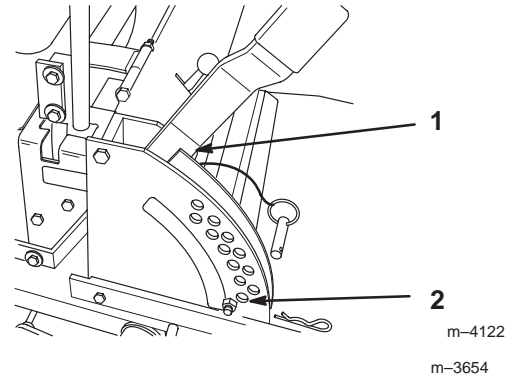
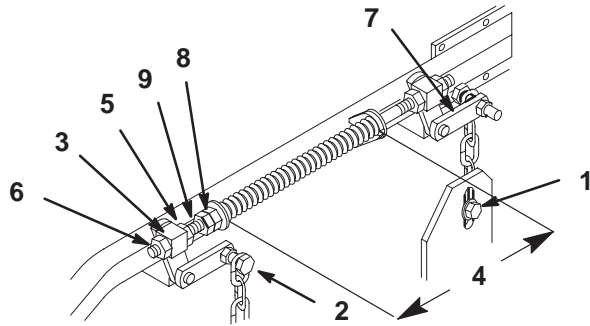

Figure 53
Figure 54
4. Raise the deck to the transport position (Fig. 53). Take force off of the two large deck lift springs by loosening the jam nut and front spring nut, in front of each spring, as far as possible (Fig. 54).
5. Place 2 thick blocks (1-3/8 in. [35 mm]) under the rear left and right lower edge of the mower. Place 1 block (1-3/4 in. [44 mm]) under the front center lower edge of the mower, not under the anti-scalp roller brackets. Lower the mower to the 1-1/2 in. (38 mm) height-of-cut position (Fig. 53).
6. Loosen the bottom chain bolt in the slot at the rear of the deck. Repeat for the opposite side (Fig. 54).
7. Loosen the front and rear locking nut on either side of the front swivel. Loosen until the front chains are loose and the deck is supported by blocks. Repeat for the opposite side (Fig. 54).
8. When the hardware is loosened, the remaining tension in the large support springs will tend to rotate the deck lift handle up, out of the 1-1/2 in. (38 mm) position. Press down on the rear deck support arm to firmly return the deck lift handle to the 1-1/2 in. (38 mm) position (Fig. 54).
9. While continuing to press down on the rear deck support arm, take the slack out of the rear chain and tighten the hardware at the bottom (Fig. 54). Downward pressure may now be released. Repeat for the opposite side.
- Raise the deck lift lever to the transport position (Fig. 53).
- Adjust the compression springs by turning the front spring nuts so that the distance between the two large washers is 10-1/4 in. (260 mm); then tighten the jam nut (Fig. 54).